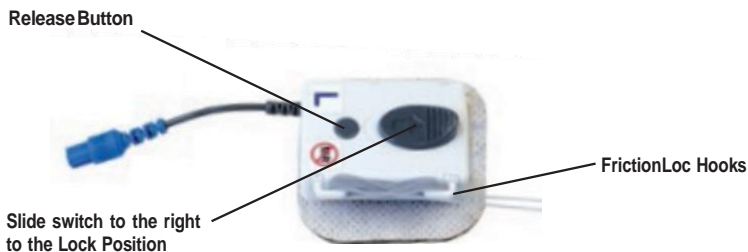

Figure 17 - FrictionLoc connector
- Slide the LOCK switch to the right, as shown in Figure 17 until it clicks.